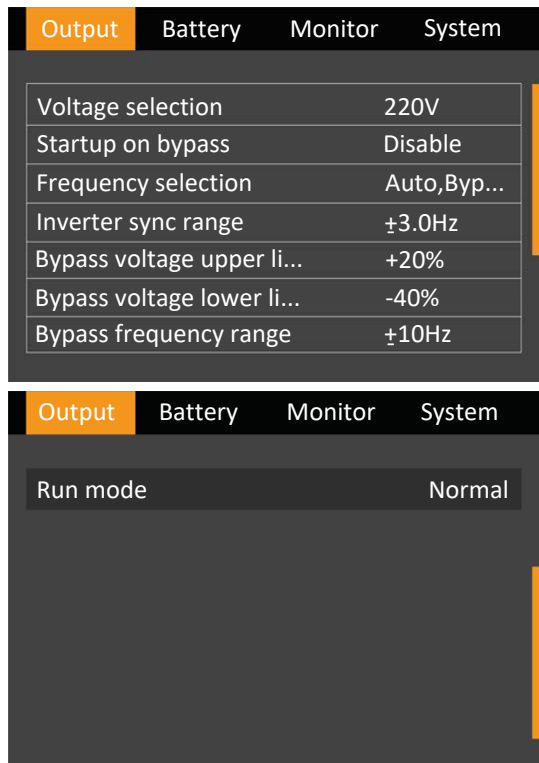

Figure 2-19 Output interface
b) Press the  or  key to select and set corresponding parameters (taking 'Output' as an example). As shown in Figure 2-19.